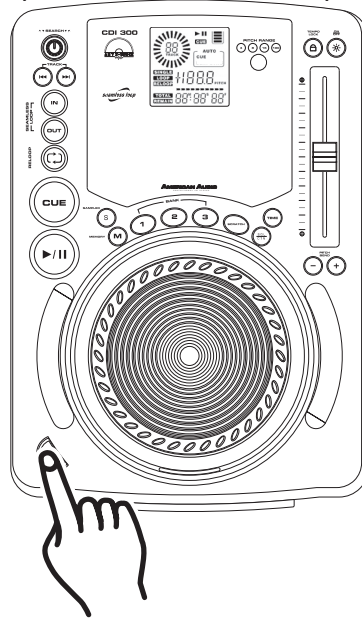

Figure 7: Press the Eject button to load and remove a disc. **Remember:** When loading a disc always hold the disc by it edges and load the disc label side up.
The CDI-500™ can only play 3 inch and regular 5 inch CDs. When loading a CD into the player always hold the disc by it edge). Load the disc label side up and never touch the signal surface (the glossy side). To remove a disc from the player press the *EJECT BUTTON* (12), see Figure 7.